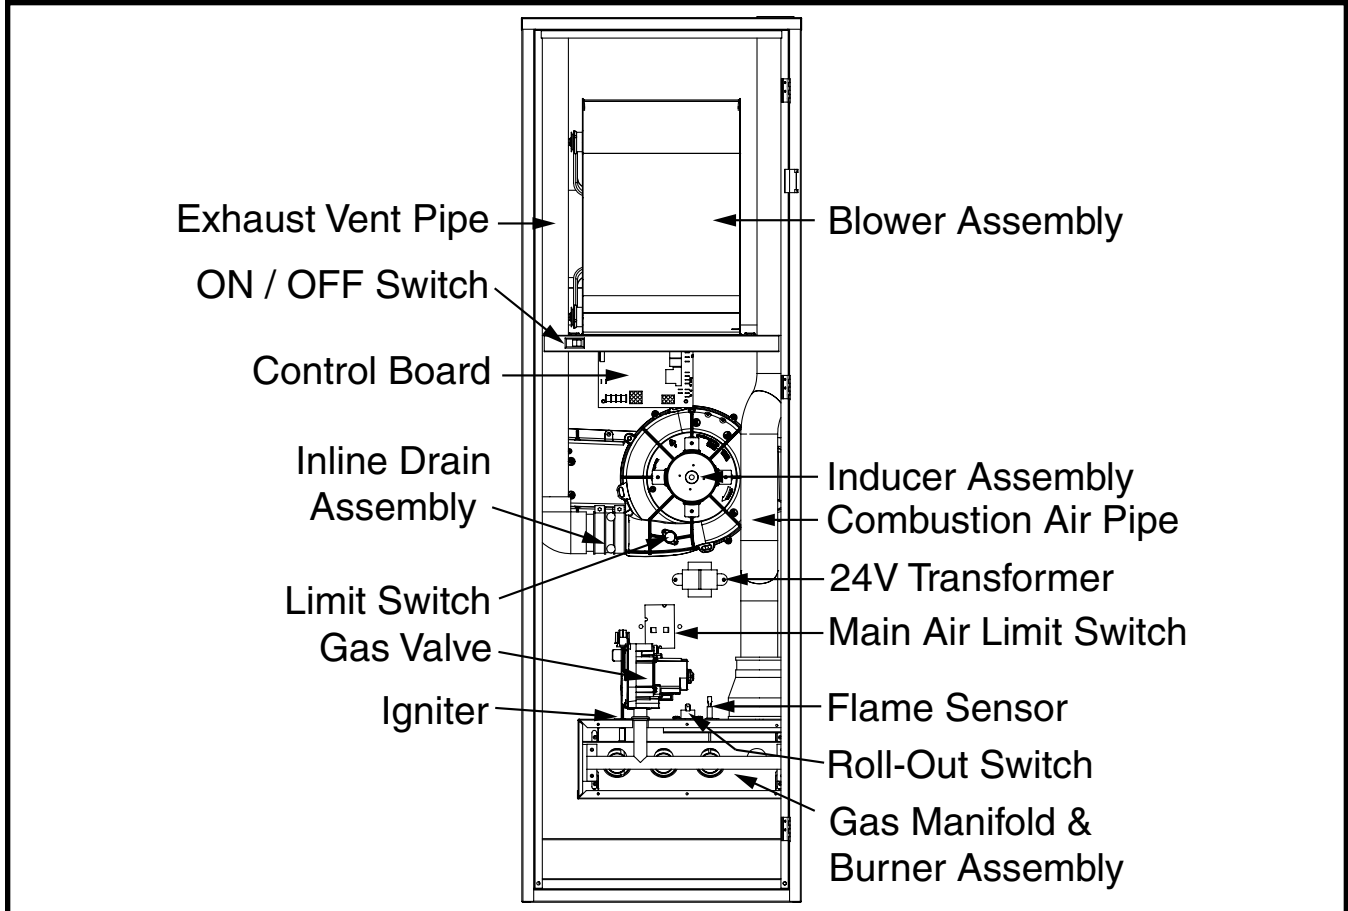

Figure 3. CMF95 Furnace Components
See Figure 3 (page 8) for switch location.
10. Turn on all electric to the furnace, including the ON / OFF switch. See Figure 3 (page 8) for switch location.
5. Set the ON /OFF switch to OFF. See Figure 3 (page 8) for switch location.
The furnace components shown in Figure 3 will help identify and locate various parts of the furnace. The component you need to familiarize yourself with is the gas valve. You will use this to turn the furnace on and off. There are no user serviceable parts. All repairs must be done by a licensed HVAC technician.